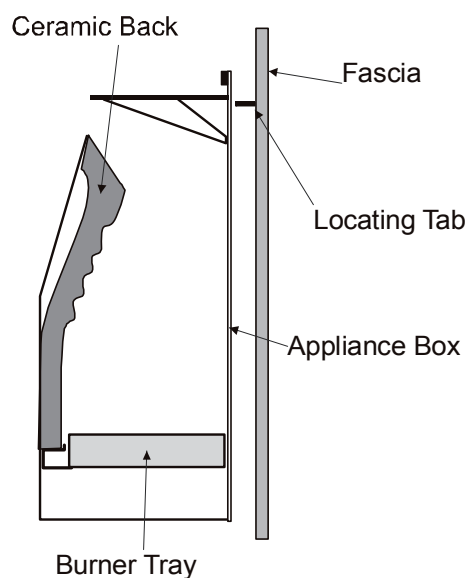

Figure 61
5. Offer the mounting frame up to the appliance opening, taking note of the locating tab projecting to the rear of the mounting frame as shown in **Figure 61**.